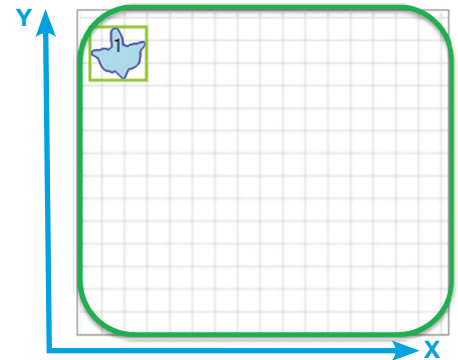

Figure 5: A single part on the Fortus 400mc or 900mc should be placed in the rear-left quadrant of the build platen.
- Single Parts - Place part in the rear left quadrant (Figure 5).